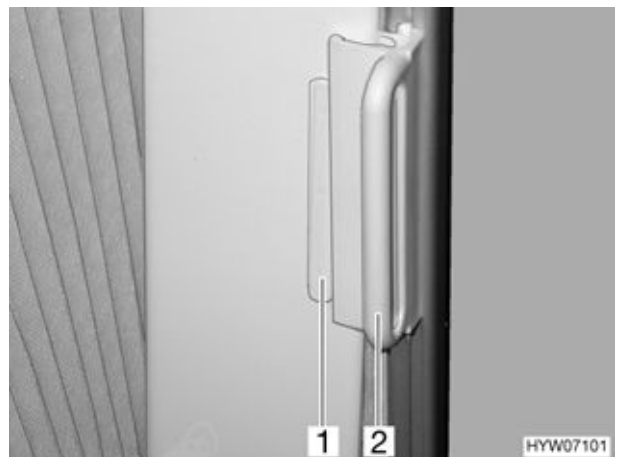

Fig. 50 Roman shade, open
- Open the Roman shades for the driver's and passenger's window and push the guiding handle (Fig. 50,2) onto the cap (Fig. 50,1).